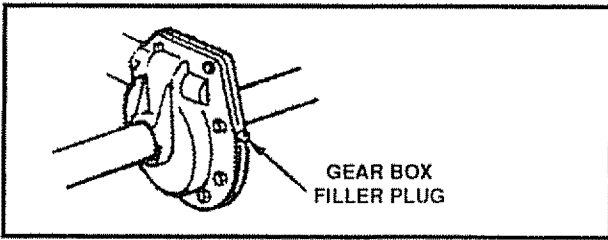

FIG. 17-A
- Auger Gear Box - The auger gear box is lubricated at the factory and should not require additional lubrication. If for some reason the lubricant should leak out, or if the auger gear box has been serviced, add Lubriplate No 630-AA or equivalent. Maximum 3 1/4 ounces should be used. Remove filler plug (Figure 17-A) once a year. If grease is visible, do not add. If grease is not visible, use a piece of fine wire like a dipstick, to check if there is grease in the gearbox. Add grease if necessary. Reinstall gear box filler